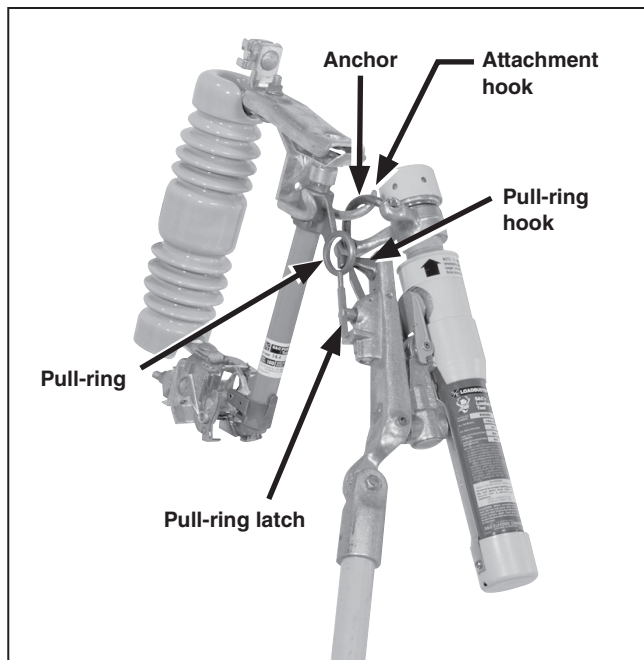

Figure 7. A Loadbuster tool connected to a Type XS Fuse Cutout, outdoor distribution.
- STEP 2.** Reach the Loadbuster tool across in front of the fuse cutout and hook the anchor, located at the top of the Loadbuster tool, over the attachment hook on the far side of the fuse cutout. See Figure 7.